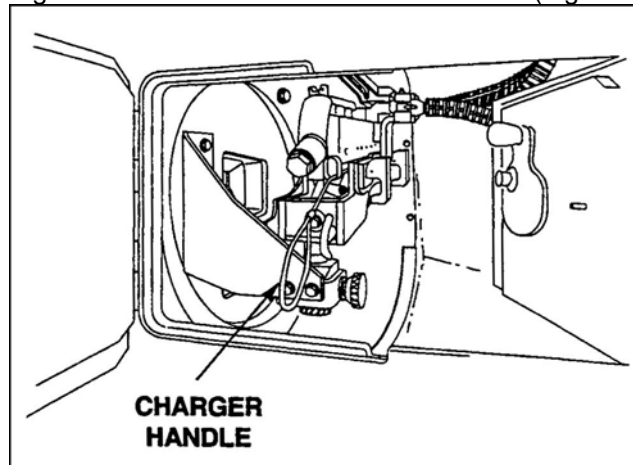

Figure 3. Charger handle.
- (5) Pull the charger handle back until bolt locks to the rear (Figure 3).